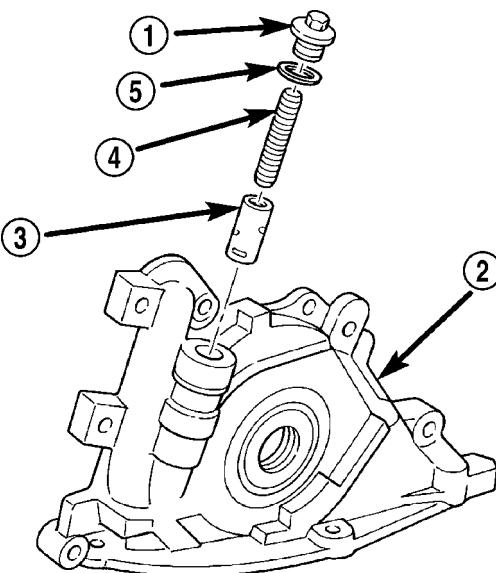

Fig. 97 Oil Pressure Relief Valve
(a) Remove the threaded plug and gasket from the oil pump (Fig. 97).
(b) Remove spring and relief valve (Fig. 97).
CAUTION: Oil pump pressure relief valve must be installed as shown in (Fig. 97) or serious engine damage may occur.
(4) Install relief valve, spring, gasket and cap as shown in (Fig. 97). Tighten cap to 41 N·m (30 ft. lbs.).